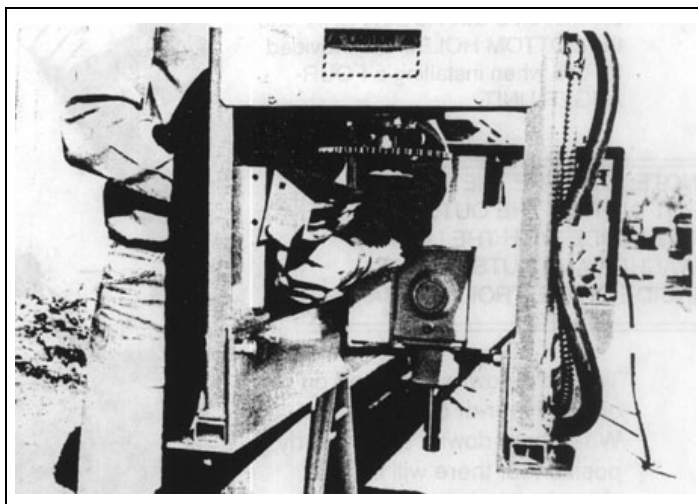

Figure 4M
17. Bolt the drive guide arm on to the center inboard pivot and chain idler support yoke, using three (3) 1/4" x 3/4" carriage bolts with lock washers and nuts. BE SURE THE GUIDE ARM IS POSITIONED AS SHOWN IN Figure 4M. (See Page 54.) The bolt holding the guide arm to the chain idler support yoke needs to be positioned with round head of the carriage bolt in the channel of the drive arm guide.